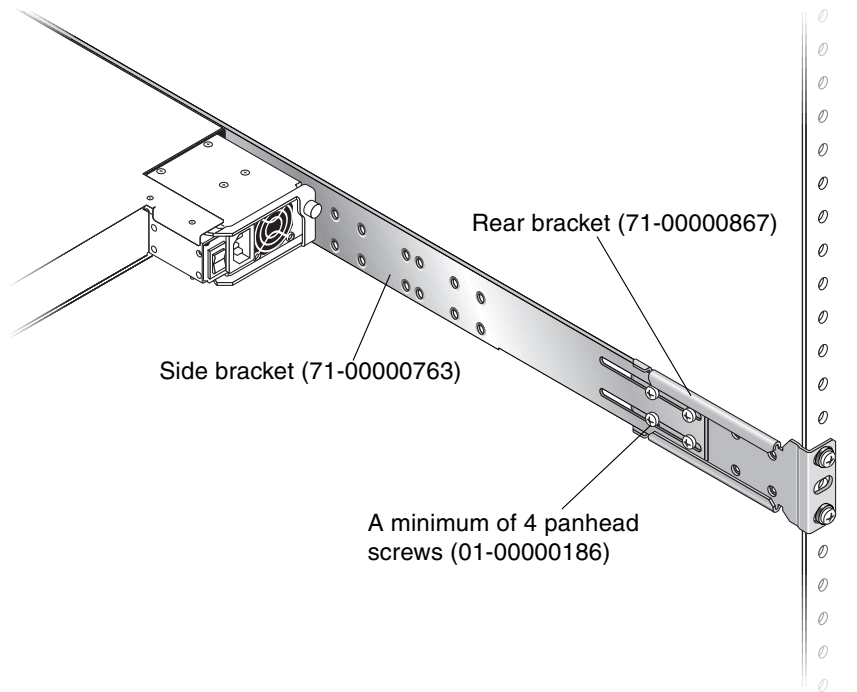

FIGURE 2-7 Example of Rear and Side Brackets Assembled
7. **Lift the chassis and slide the side brackets into the rear brackets, which are attached to the rear posts. (See FIGURE 2-7)**